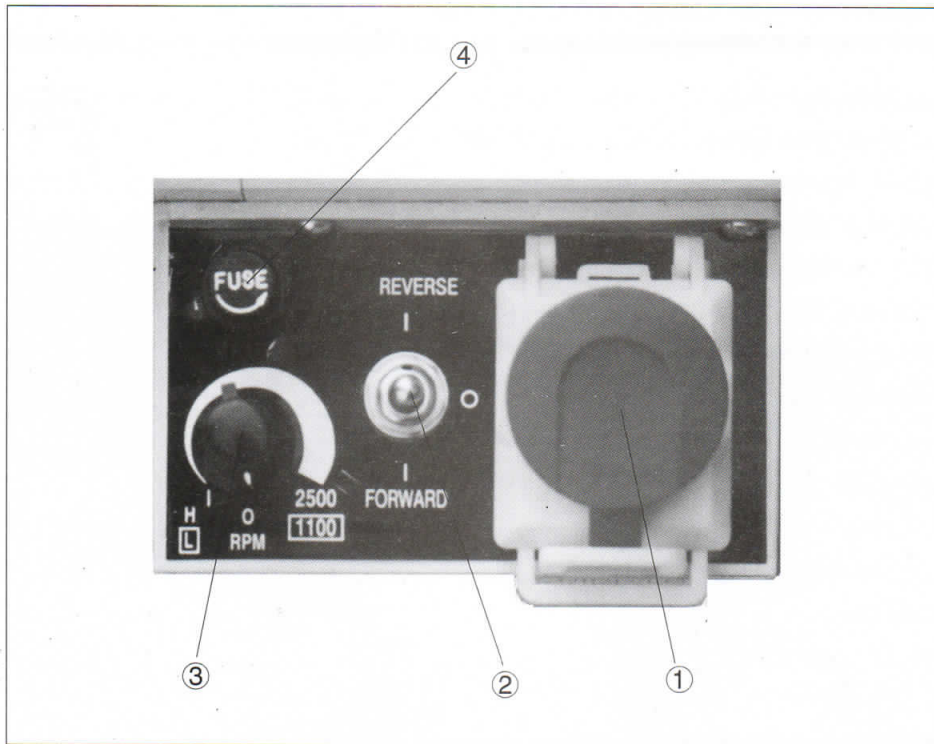

Fig. 4 Switches For Control
5. First shut off the switch ① . Adjust the switch ③ by turning to "0" position and turn the switch ② to STOP position. If the lathe needs to be started, turn the switch ① according to direction marked on switch to the normal position and turn the switch ② to FORWARD or REVERSE position.
The spindle will turn immediately by turning the switch ③ . The speed can be adjusted by turning the switch ③ . If the lathe needs to be stopped, turn the switch ③ to "0" position. If the direction of the lathe spindle needs to be changed, the switch ③ must be turned to "0" position at first. If the lathe must be stopped under emergency situation, please put down the switch ① immediately. If the lathe needs to be started again, please do it again according to above mentioned process. (SEE Fig. 4)